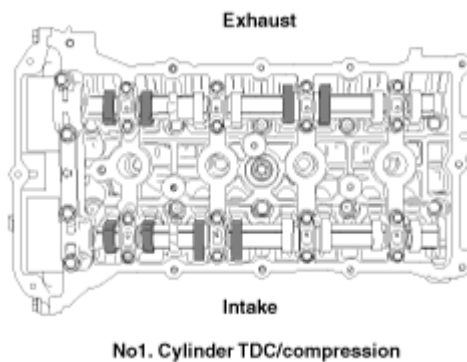

Fig. 5: Inspecting Valve Clearance (1 Of 2)
- A. Check only the valve indicated as shown in **Fig. 5**. [No. 1 cylinder: TDC/Compression] measure the valve clearance.